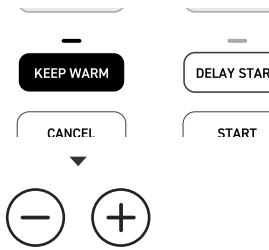

Figure 9.3
3. Select **KEEP WARM** and press the **-** or **+** buttons to adjust the time for up to 12 hours. [Figure 9.3]